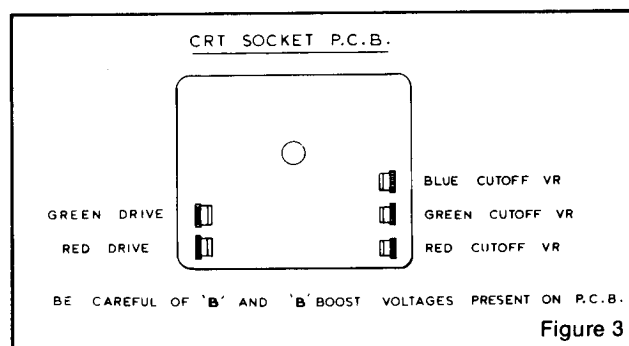

Figure 3
- 4.7 CRT cut off controls (See fig. 3)
- 4.8 Video drive controls (See fig. 3)
- 1.5 Turn off the green and blue fields and adjust setup controls to produce a red field. (See fig. 3)
- Refer to figure 3. Do the following in subdued light: